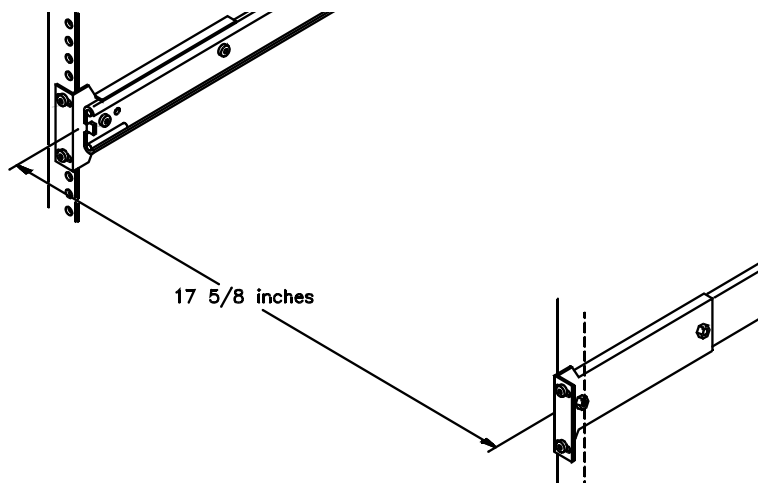

Figure 1-3 Adjusting the distance between the front mounting brackets
4. As shown in Figure 1-3, adjust the distance between the front mounting brackets to $17\frac{5}{8}$ inches (44.8 cm).